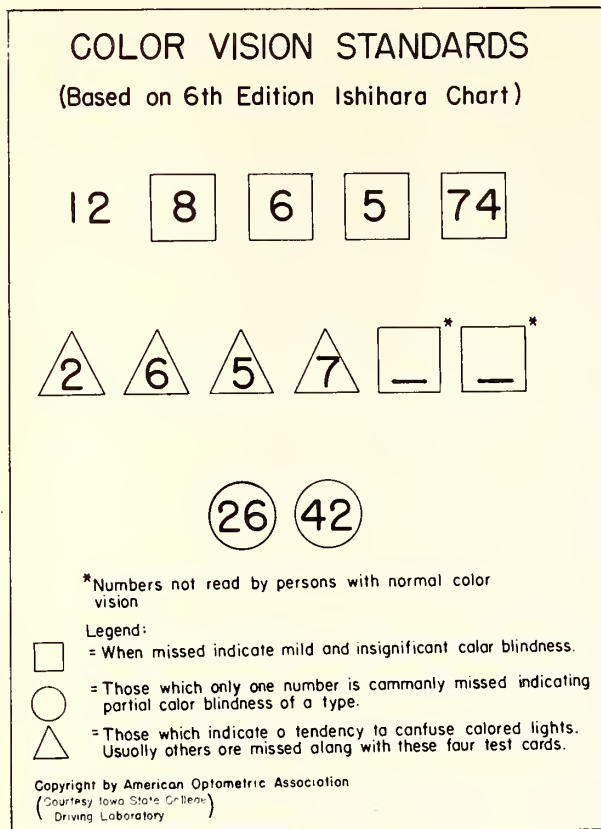

FIG. 1
Figure 1 is merely a copy of numbers on the plates used in the Ishihara test - 6th Edition. A much more reasonable interpretation of color blindness can be made by reference to this chart.
A very careful analysis of color-blind persons by means of a spectrophotometer, in which difference of intensity between the two bands was controlled, showed that about one out of thirty color-blind persons would confuse colored lights as used for signal purposes. The results showed that only those who missed the numbers in triangles shown on this interpretation chart would confuse colored lights. By using this chart for interpreting results from the Ishihara test a much finer and more accurate selection of men can be made. The chart is used by reference to the legend. (See Figure 1.)
7. Color vision - Ishihara test as interpreted by Figure 1.